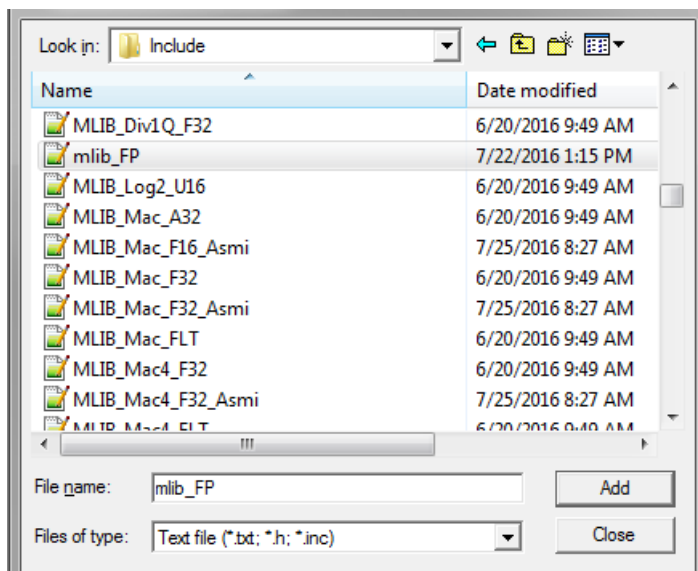

Figure 1-29. Adding .h files dialog
4. Navigate into the library installation folder C:\NXP\RTCESL\CM4F_RTCESL_4.5_KEIL\MLIB\Include, and select the *mllib_FP.h* file. If the file does not appear, set the Files of type filter to Text file. Click Add. See Figure 1-29.